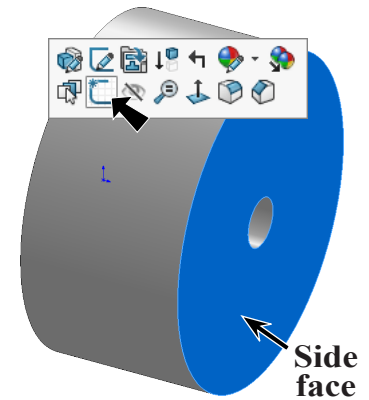

Fig. 5
Step 1. Click the **side face** and click **Sketch**  on the context toolbar, **Fig. 5**.